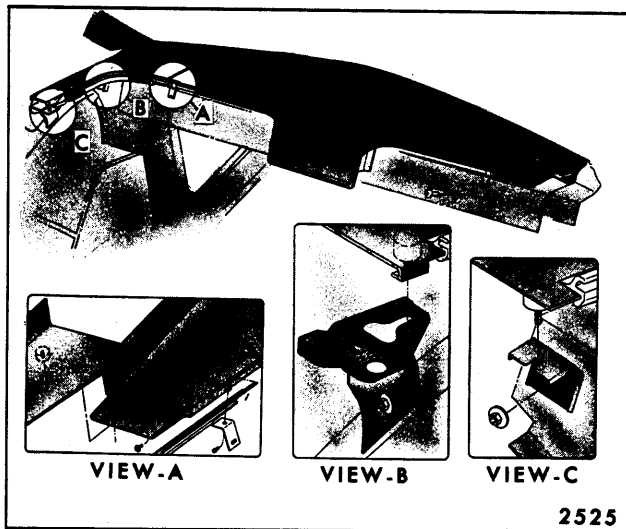
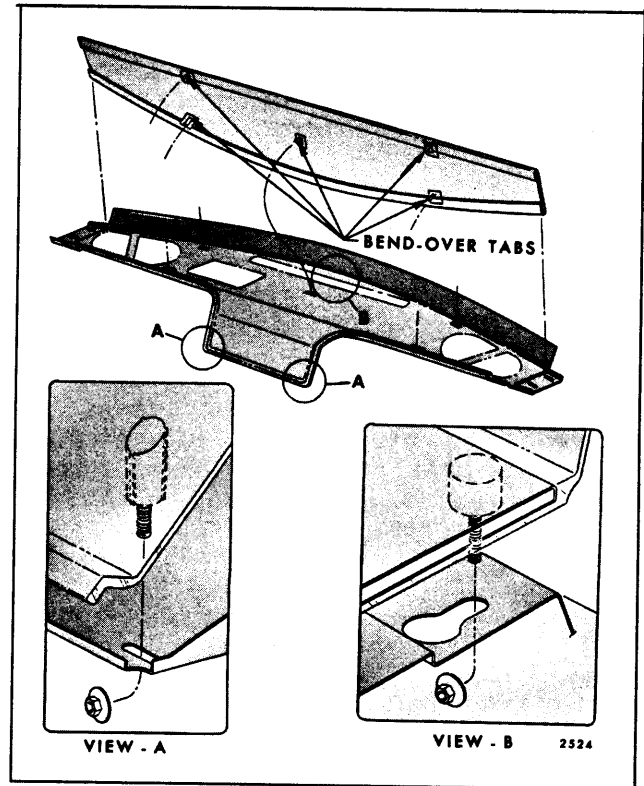

Fig. 14-43—Compartment Shelf Trim Panel -
Fig. 14-44—Compartment Shelf Center Trim Panel -
4. Remove rear compartment side panel attaching screws (View "A", Fig. 14-43). Loosen compartment shelf to metal foundation nuts as indicated in View "C". Remove center section attaching nuts (View "A & B", Fig. 14-44 and View "A", Fig. 14-43).
6. To remove the center trim panel, bend metal tabs (Fig. 14-44) to straight down position and detach from shelf panel.